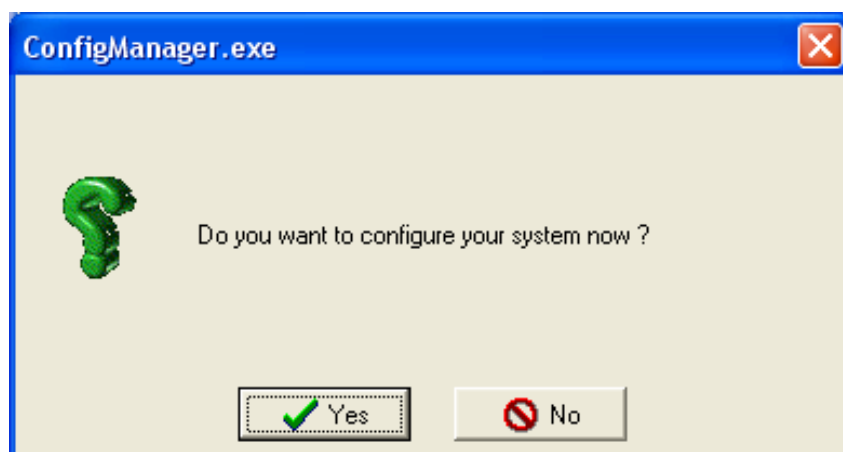

Figure 18 Configuring the system now will start the driver
3. You get the following window. Click yes and wait for about 30sec to 1 minute for the driver to start (*Fig. 18*).